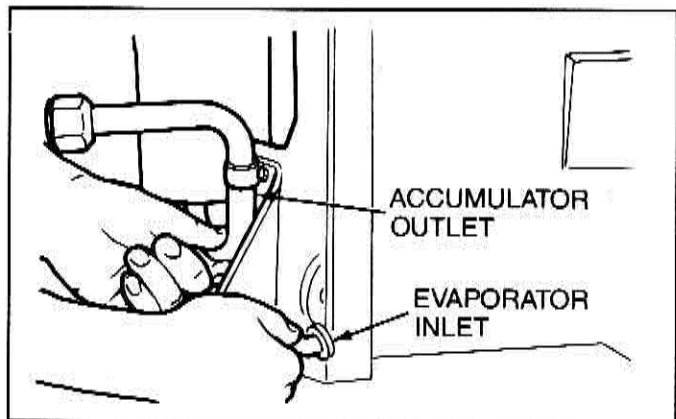

Figure 2-3 — Checking Evaporator Inlet and Accumulator Temperatures (G-Series)
2. With the compressor engaged, place your hand first on the evaporator inlet pipe (between the expansion orifice and evaporator), and then on the accumulator can surface (Figure 2-3).